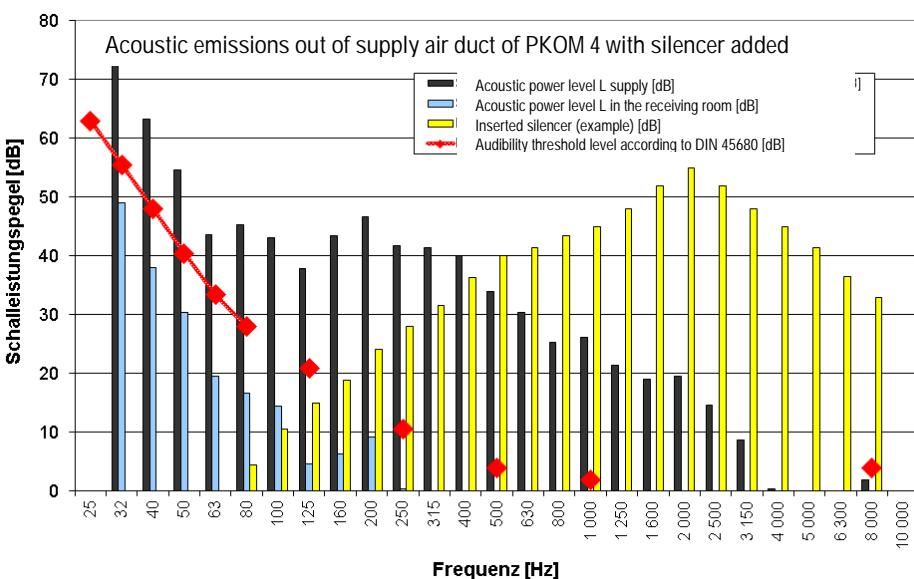

Figure 2:
The sound level coming from supply air ducts 42 dB(A) and extract air ducts 59 dB(A) respectively is similarly too high and thus adequate silencers have to be used always to keep the noise level in all living rooms and sleeping rooms below 25 dB(A) — the audacity threshold. The producer will specify a configuration of the silencers, see figure 2.